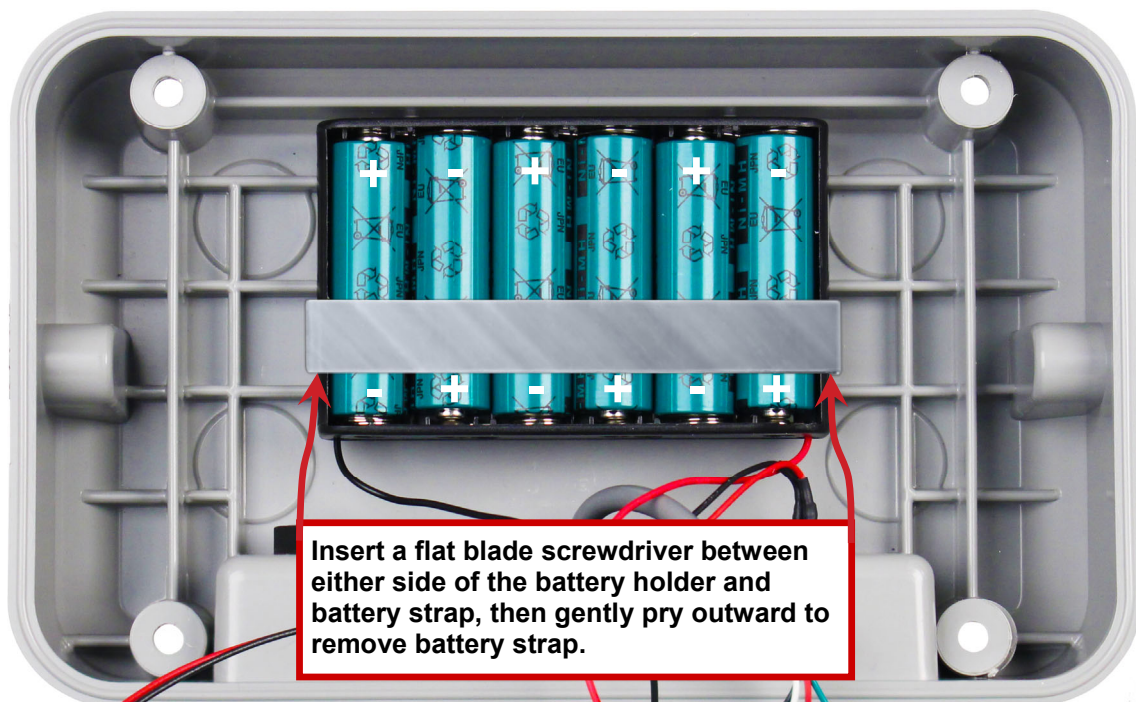

Figure No. 3
3. Remove the four (4) Phillips screws securing the back panel to the main housing.
7. Install the 6 new “AA” size batteries in the battery holder, noting the polarity markings located in the battery holder. Refer to Figure No. 3 below.
12. Secure the rear panel to the main housing with the four (4) Phillips screws removed earlier, torquing them to 20 inch-pounds (2.26 newton-metre). The Model 185B is ready for normal operations.